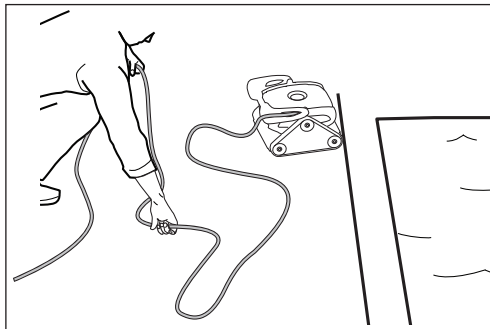

Figure 12. Untangle the Floating Cable
1. Starting at the cleaner head. Remove all coils and tangles from the cable (Figure 12).